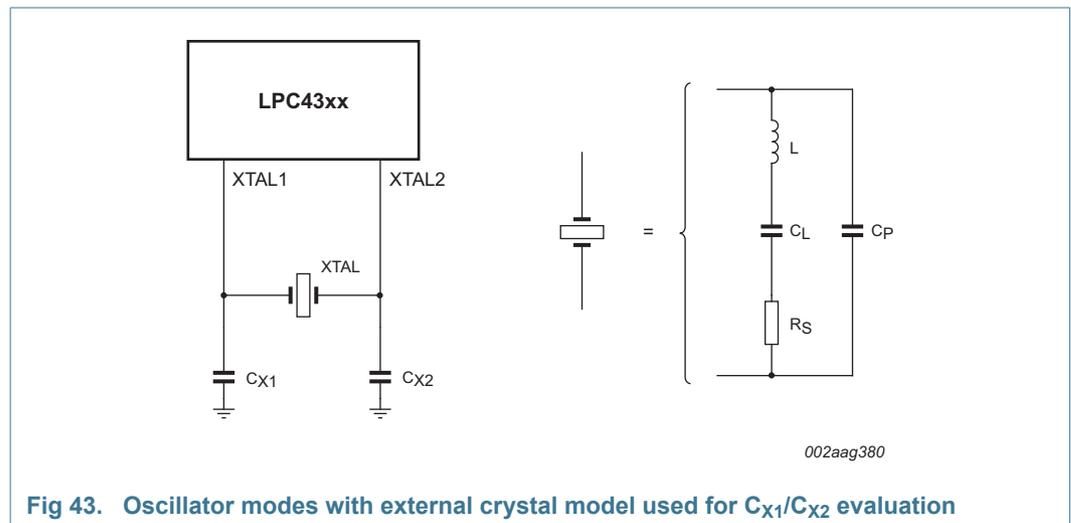

Fig 43. Oscillator modes with external crystal model used for C_{X1}/C_{X2} evaluation
- External components and models used in oscillation mode are shown in Figure 43, and in Table 44 and Table 45. Since the feedback resistance is integrated on chip, only a crystal and the capacitances C_{X1} and C_{X2} need to be connected externally in case of fundamental mode oscillation (L, CL and RS represent the fundamental frequency). Capacitance C_P in Figure 43 represents the parallel package capacitance and must not be larger than 7 pF. Parameters FC, CL, RS and CP are supplied by the crystal manufacturer.